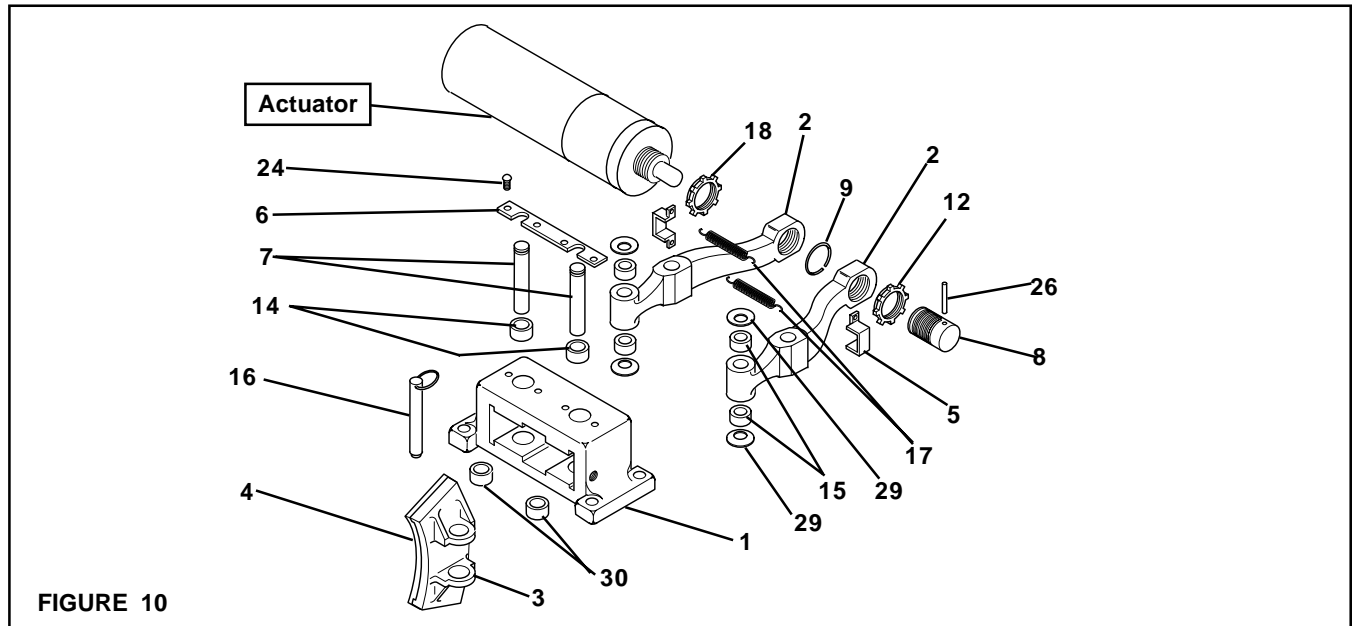

FIGURE 10
1. Loosen the Spanner Nut (Item 12) (See Figure 10).
2. Remove the Actuator from the Brake Arm (Item 2) (See Figure 10).
3. Remove the Extension Springs (Item 17) and Spring Clips (Item 5) from the Brake Arms (Item 2) (See Figure 10).
4. Remove the Detent Pins (Item 16) from the Brake Arms (Item 2), Friction Facings (Item 4), Shoes (Item 3), and Belleville Disc Springs (Item 29) (See Figure 10).
12. Press the old Sleeve Bearings (Item 15) out of the Shoes (Item 3) (See Figure 10).
13. Press new Sleeve Bearings (Item 15) into the Brake Arm (Item 2) (See Figure 10).
14. Slide the Brake Arms (Item 2) back into the Main Frame (Item 1) (See Figure 10).
15. Install the Pivot Pins (Item 7) (See Figure 10).
16. Install the Pivot Pin Retaining Plate (Item 6) (See Figure 10).
17. Install the four Cap Screws (Item 24) to secure the Pivot Pin Retaining Plate (Item 6) (See Figure 10).
5. Slide the Friction Facings (Item 4) and Shoes (Item 3) off of the Brake Arms (Item 2) (See Figure 10).
6. Remove the four Cap Screws (Item 24) securing the Pivot Pin Retaining Plate (Item 6) (See Figure 10).
7. Remove the Pivot Pin Retaining Plate (Item 6) (See Figure 10).
8. Press the Pivot Pins (Item 7) out of the BD Caliper Brake (See Figure 10).
9. Slide the Brake Arms (Item 2) out of the Main Frame (Item 1) (See Figure 10).
10. Press the old Sleeve Bearings (Items 14 and 30) out of the Main Frame (Item 1) (See Figure 10).
11. Press new Sleeve Bearings (Items 14 and 30) into the Main Frame (Item 1) (See Figure 10).
19. Slide the Friction Facings (Item 4) and Shoes (Item 3) over the Belleville Disc Springs (Item 29) and onto the Brake Arms (Item 2); then, install the Detent Pins (Item 16) (See Figure 10).
20. Install the Spring Clips (Item 5) and Extension Springs (Item 17) onto the Brake Arms (Item 2) (See Figure 10).
21. Screw the Actuator back onto the Brake Arm (Item 2) as far as possible (See Figure 10).